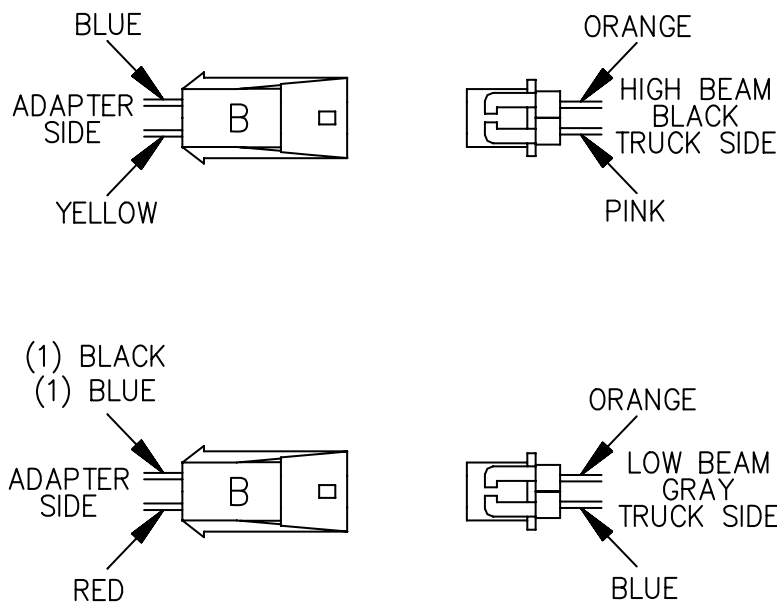

Figure 1. Headlight Adapter Orientation
A. This installation requires Headlight Adapter Kit MSC04601. The headlight connectors should be installed in the "B" position. See Figure 1.